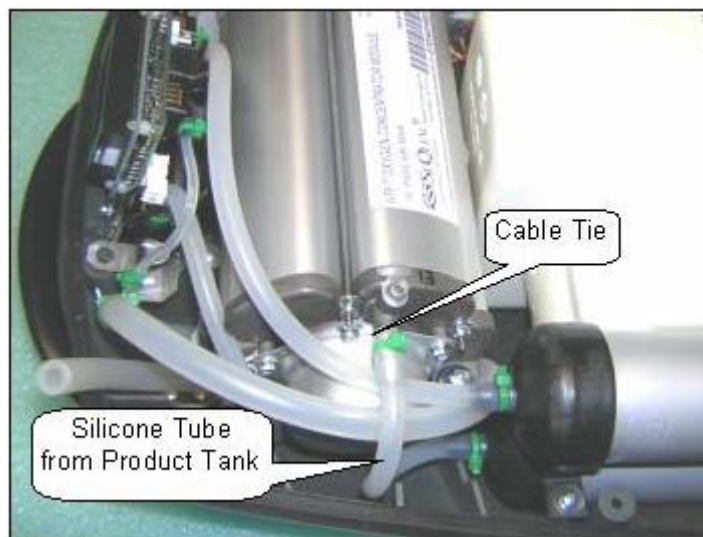

Figure 30: Removal of ATF Module Product Hose.
18. Connect the silicone tube from the Product Tank into the product port of the ATF and secure joints with cable ties as shown on Figure 30 above.